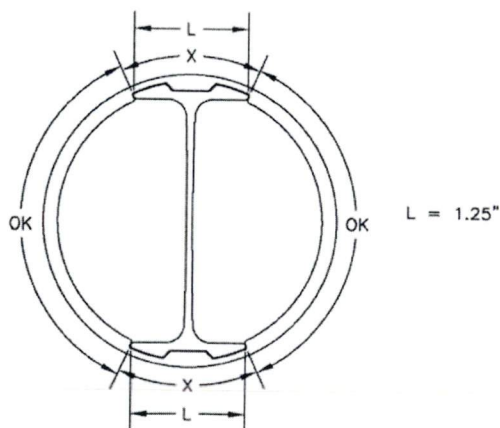

Figure 5-2 – Damage Regions
- skidtube dimensions beyond the limits shown in Figure 5-2 (adjust limits for corrosion/wear as described in item 5.2.1 above).